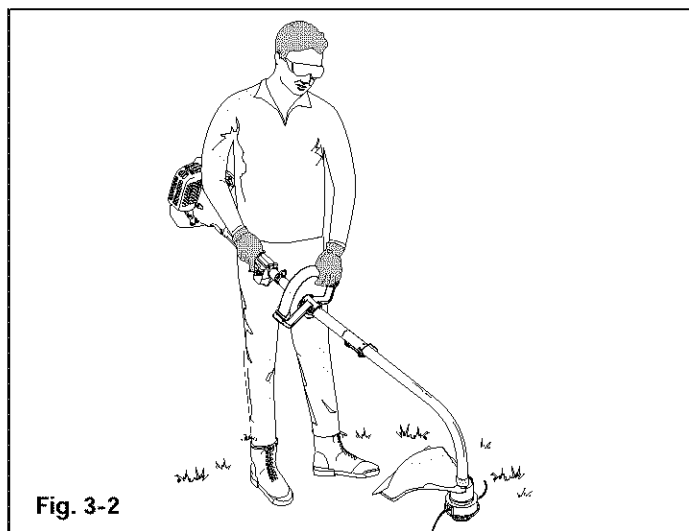

Fig. 3-2
5. While holding the unit in the operating position (Fig. 3-2), move the D-handle to the location that provides you the best grip.